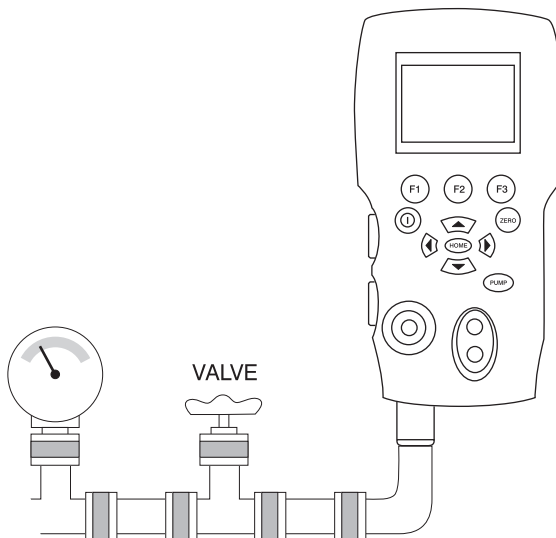

Figure 5
1. The Omega PCL819 is supplied with a special low volume calibration hose kit to facilitate faster pumping to pressure and quick pressure stabilization. the kit also comes with the required “quick-fit” hose connectors and a BSP adapter for non-NPT applications. It is highly recommended that this type of hose is used to achieve the best performance of the product. Once the fittings are installed and the calibrator is connected to the unit under test (UUT) the calibrator is ready for use. Figure 5 shows a typical setup.